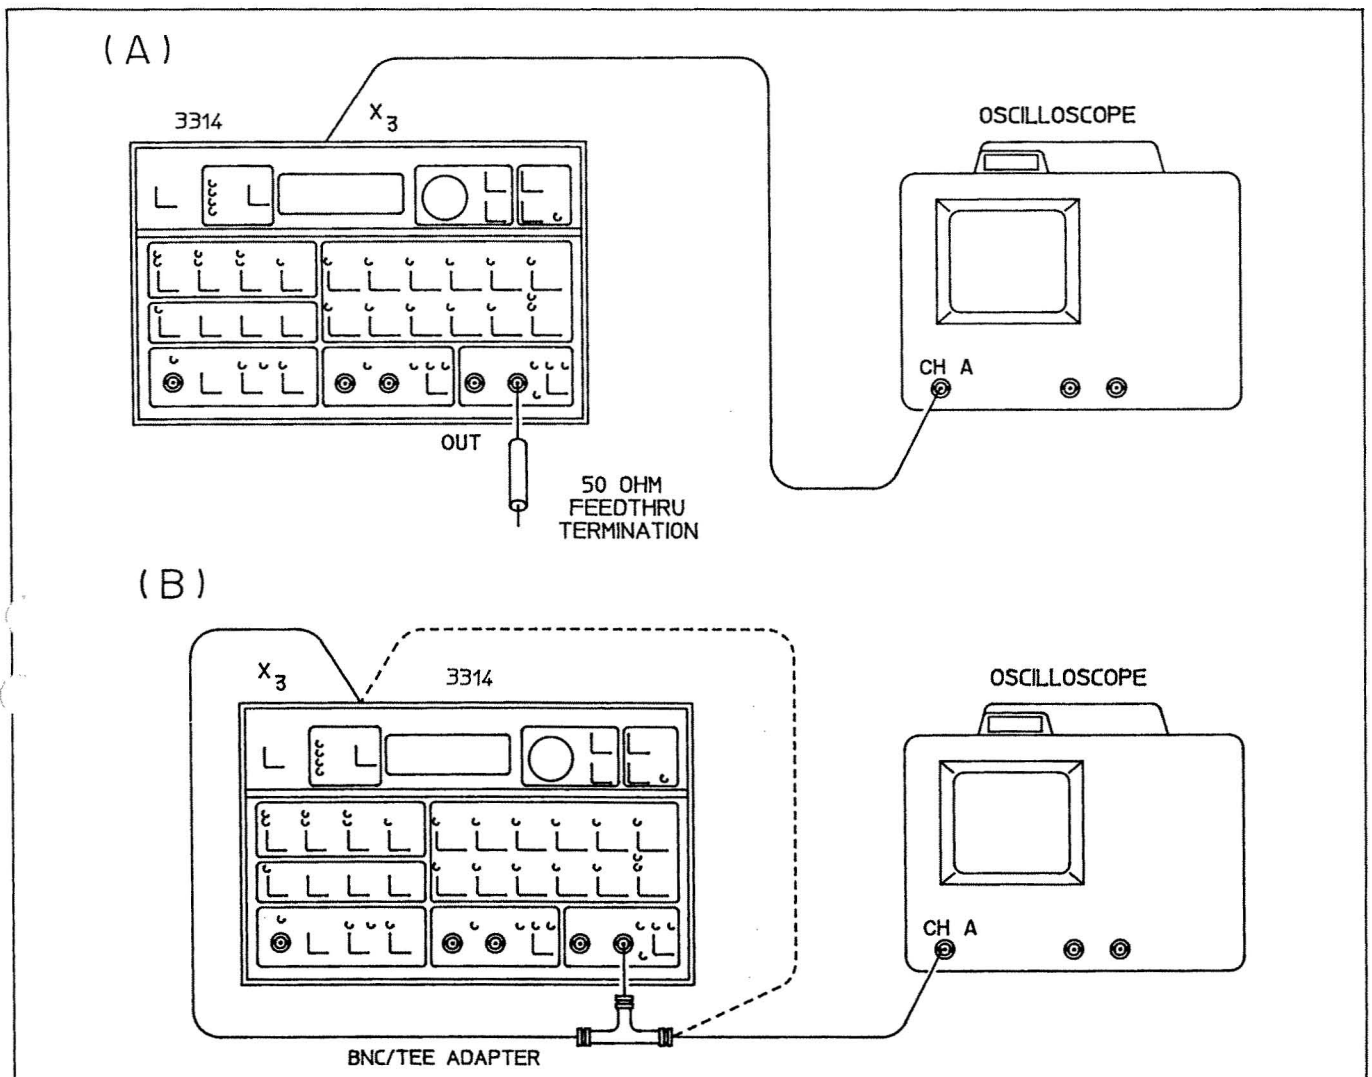

Figure 5-18. X3 (Option 001) Functional Check
I. Using another cable, connect the x3 output to the other end of the TEE. (See part B of Figure 5-18.)